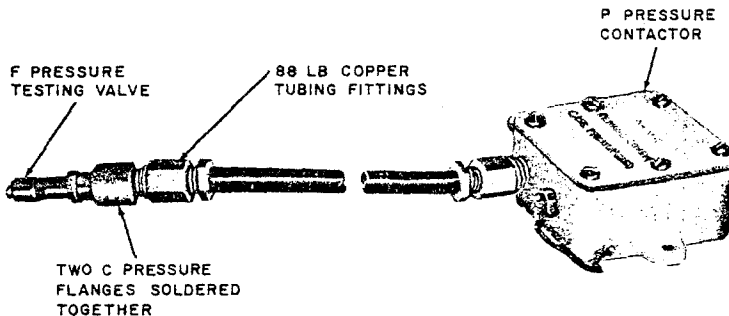

Fig. 7—P Pressure Contactor Prepared for Setting
- (1) Install a 1/4- by 1/8-inch copper tubing fitting (88-LB) and an F pressure valve on the end of the contactor copper tubing stub (Fig. 7). ***Push alarm and talk pairs up into the end of the copper tubing before installing the fitting and valve.***